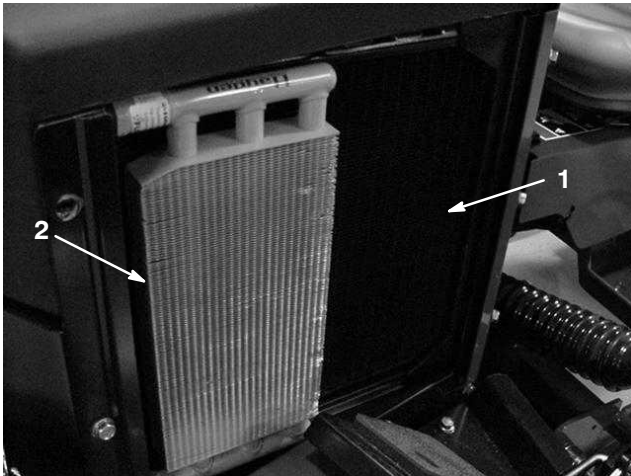

Figure 46
3. Thoroughly clean the oil cooler (Fig. 46) and remove any other debris that may have collected around the components.